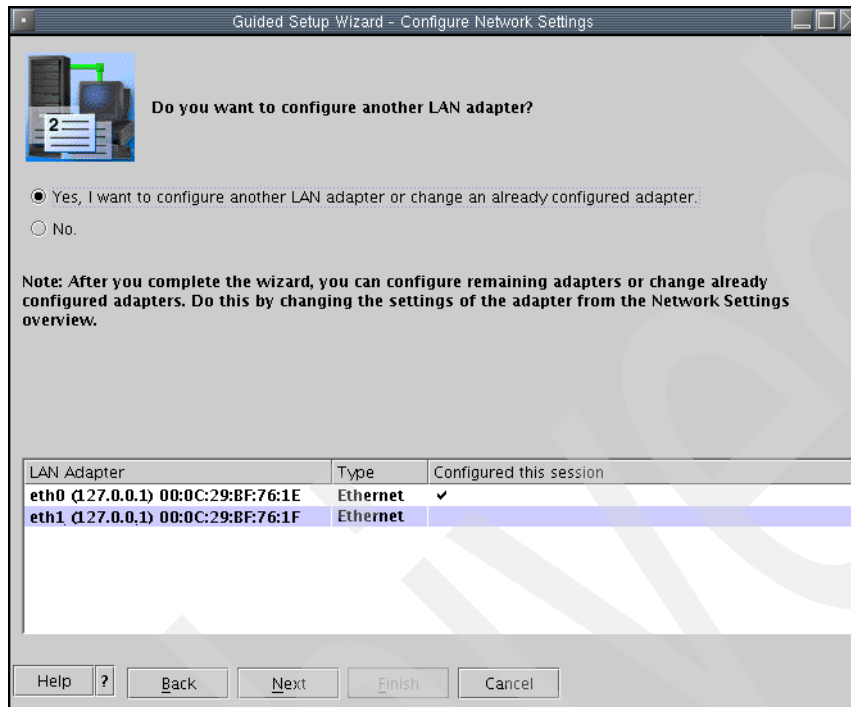

Figure 4-19 Guided Setup wizard - Configure Network Settings
19. The Guided Setup Wizard - Configure Network Settings panel is now displayed (Figure 4-19). This completes the network configuration of the private network interface eth0. We can now proceed with the configuration of the second network card (eth1) for our open network.
Select the **Yes** radio button if it is not already flagged. The second ethernet card should be highlighted in grey (as in Figure 4-19). Click **Next** to continue with the Guided Setup wizard.